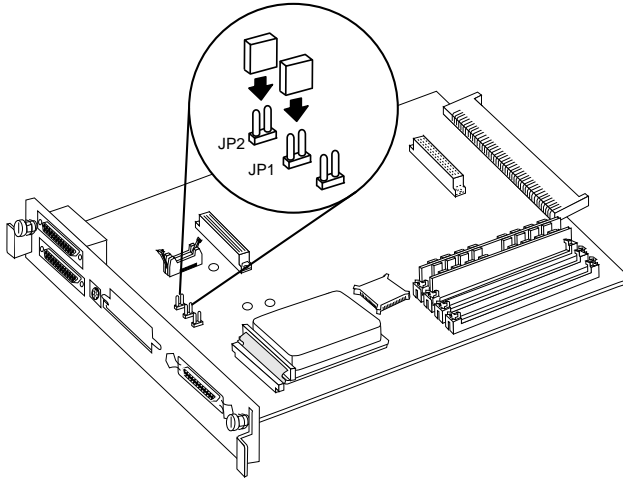

Fig. 8.22 Place the Shunts on the Jumpers
4. Place the two shunts on jumpers JP1 and JP2 (fig. 8.22). Make sure both sets of pins are covered by the shunts.